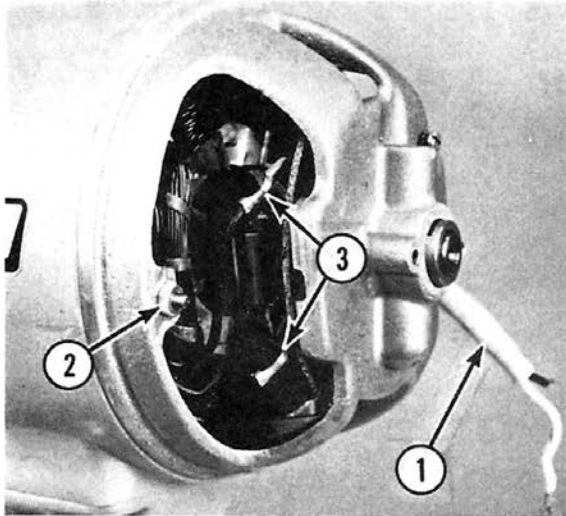

Fig. 4-7
B. Disconnect the line leads (1, Fig. 4-7) on present production mixers.
C. Remove the four nuts (2, Fig. 4-7) and lockwashers and pull off the bearing bracket. Disconnect the two leads on the starting switch (3, Fig. 4-7).